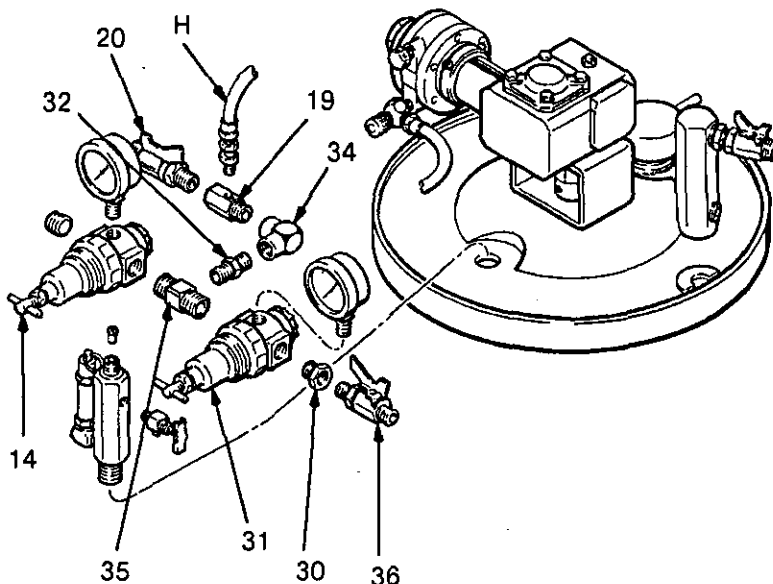

Fig 3
Connect the inlets of the two regulators (14, 31) with the regulator nipple (35). Screw the bushing (30) and the ball valve (36) into the atomizing air regulator (31) outlet. See Fig 3.
Screw the nipple (32) into the regulator nipple (35). Screw the elbow (34) tightly onto the nipple (32), lifting the elbow at an angle to clear the agitator. See Fig 3.
To install an accessory air operated agitator, see manual 307-792. Connect the agitator hose (H) to the air inlet manifold (19) as shown in Fig 3.